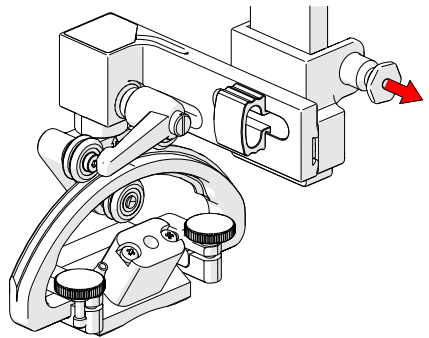

Fig. 213 - Pull latch pin
2. Pull the latch pin to allow movement of the probe holder (Fig. 213).